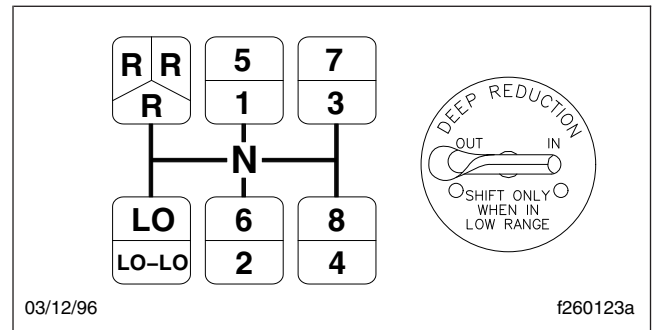

Fig. 8.8, Shift Pattern, Deep Reduction
Eaton Fuller deep-reduction models are not synchronized. They have a five-speed front section and a two-speed auxiliary section which has an extra deep reduction gear. The LO gear in the front section is used only as a starting gear. The other four ratios are used once in LOW RANGE and once in HIGH RANGE giving eight highway ratios. LO-LO is selected by the DEEP REDUCTION lever on the dashboard. See Fig. 8.8 for the shift pattern.
1. Position the gear shift lever in neutral. See **Fig. 8.8** for the shift pattern. Start the engine,